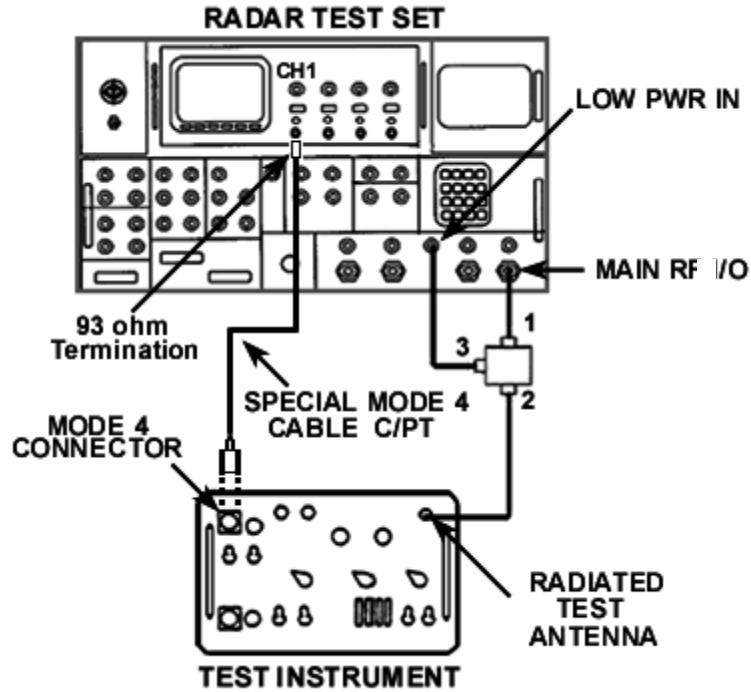

Figure 5. MODE 4 pretrigger – equipment setup.
- (1) Connect equipment as shown in figure 5.